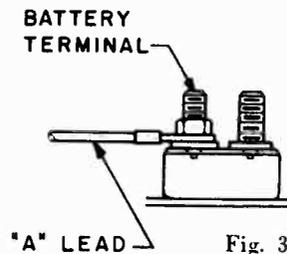

Fig. 3
18. Connect "A" lead to battery terminal on circuit breaker mounted over the steering column behind the instrument panel. (See fig. 3.)